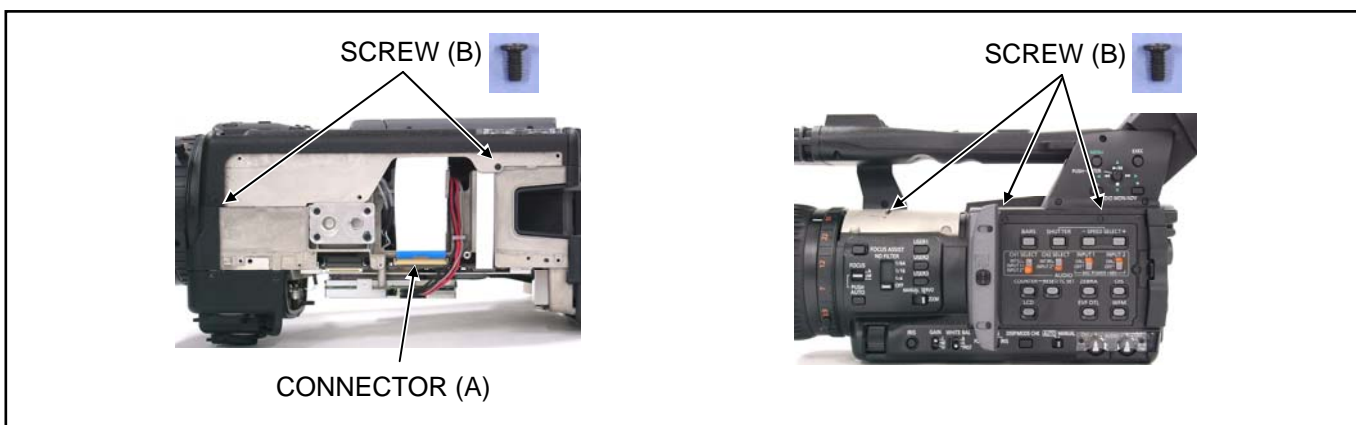

Figure 9-2
3. Disconnect a connector (A) and unscrew the 5 screws (B) as shown in figure 9-2.